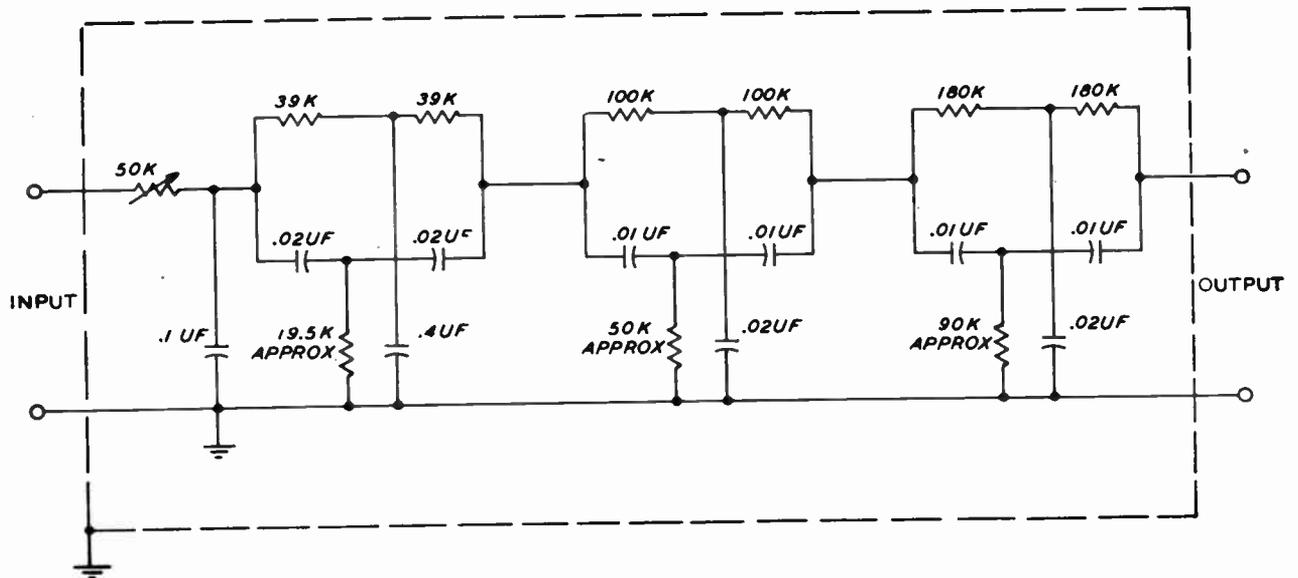

Figure 8-5. 30 cps Filter and Phase-Correction Network
- d. See figure 8-5 for filter and phase-correction network.
4. The entire circuit as shown in figure 8-5 must be shielded and grounded to prevent pickup from the power line.